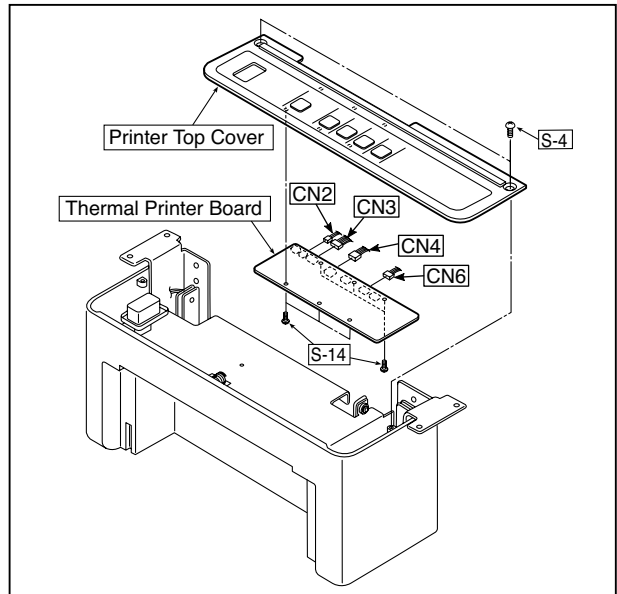

Fig.4
### 3) Remove the Thermal Printer Board. (See Figs.4)
- 1.Remove the "S-4" screws shown in the figure 4 and then remove the Printer top Cover.